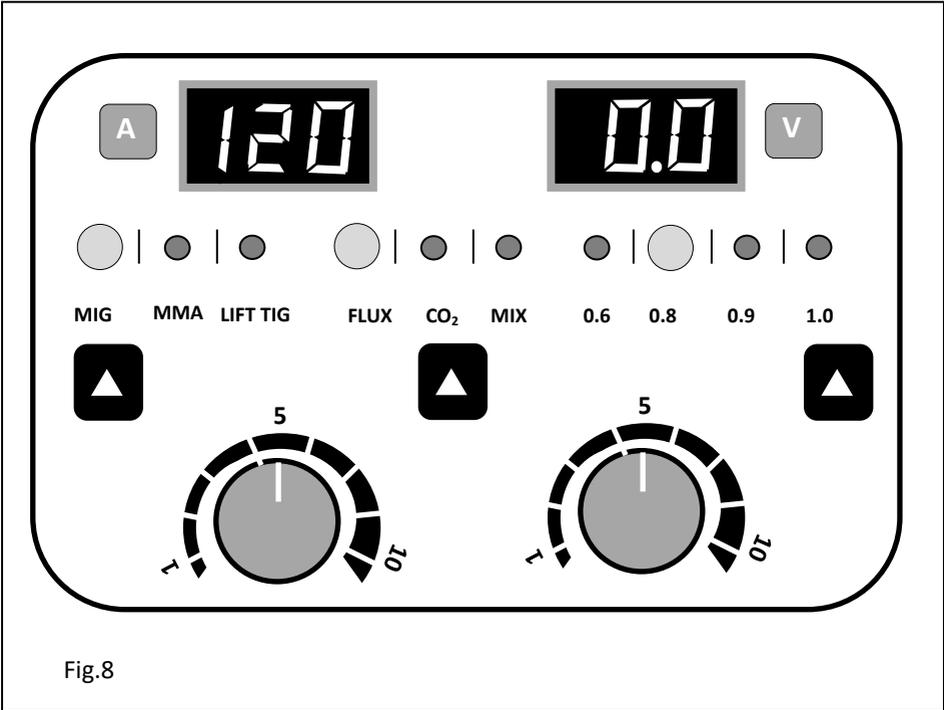

Fig.8
- **See Fig.8 Page 28**
EXAMPLE: Fig.8